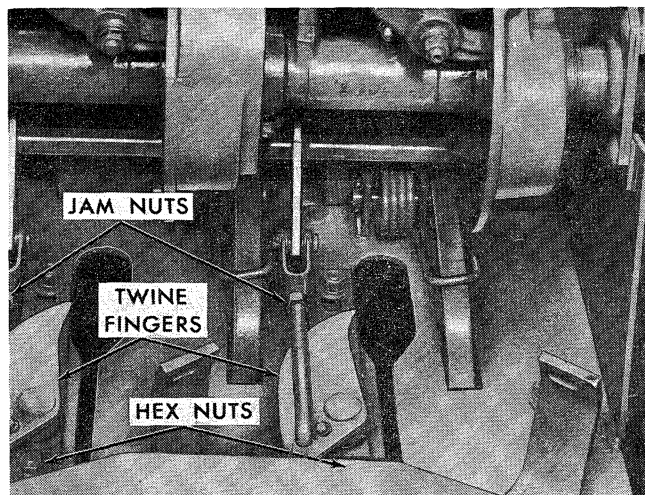

Figure 56
2. To adjust the fingers, loosen the jam nuts and remove the hairpins and clevis pins from the two clevises, shown in Figure 56.
3. Loosen the two hex nuts, shown in Figure 56, which secure the twine finger assemblies to the frame. Move the assemblies backward or forward until the above clearance is obtained and tighten the nuts.
5. Turn the clevises, shown in Figure 56, until the twine finger points are .030" from the left edge of the needle slots in the top of the bale chamber as shown. At the same time, apply pressure to the fingers in a clockwise direction to remove linkage end play. Attach the clevises to the cam tracer arms with the clevis pins and hair pins, and secure with the jam nuts.